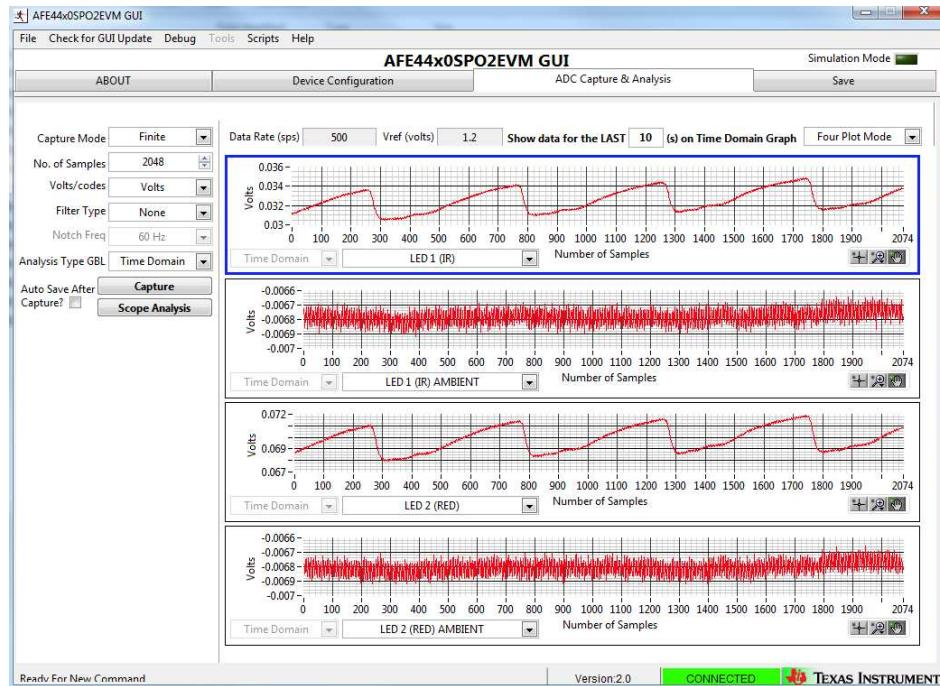

Figure 44. Sample Test Data
- Select the first waveform to LED1 (IR)
- Select the second waveform to LED1 (IR) AMBIENT
- Figure 44 shows a sample data capture